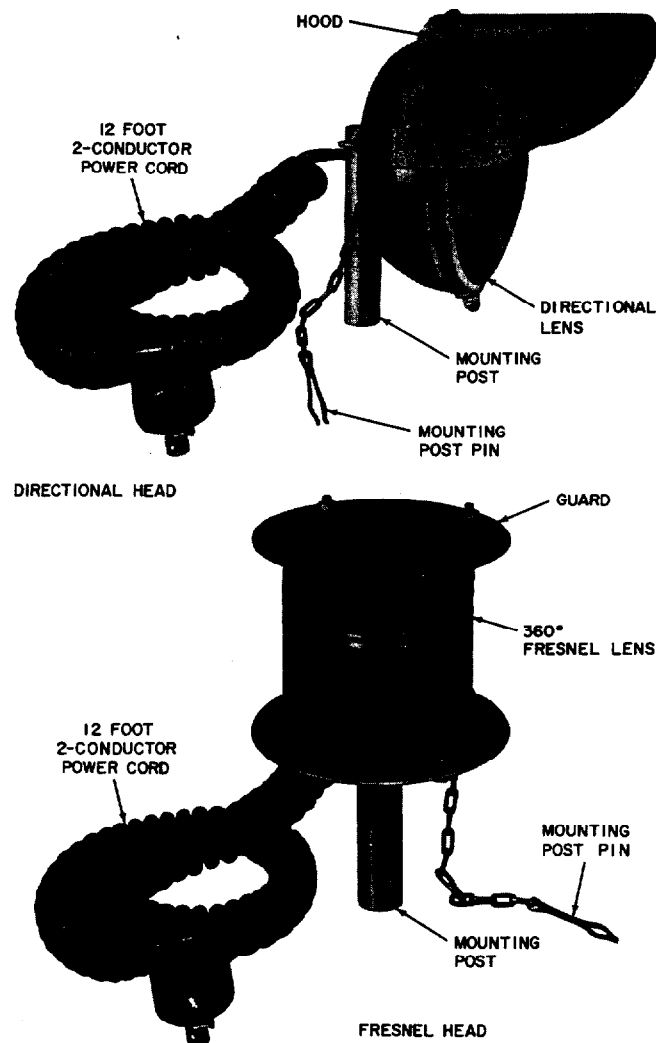

Fig. 3 — Lamp Heads for C Warning Flasher
2.03 There are two types of C Warning Flasher lamp heads (Fig. 3). One is a cylindrical or 360-degree fresnel type lens with the lens enclosing a 25-watt filament lamp in a partially guarded fixture. The other is a directional type which has a 25-watt filament lamp positioned at the focal point of a silvered para-